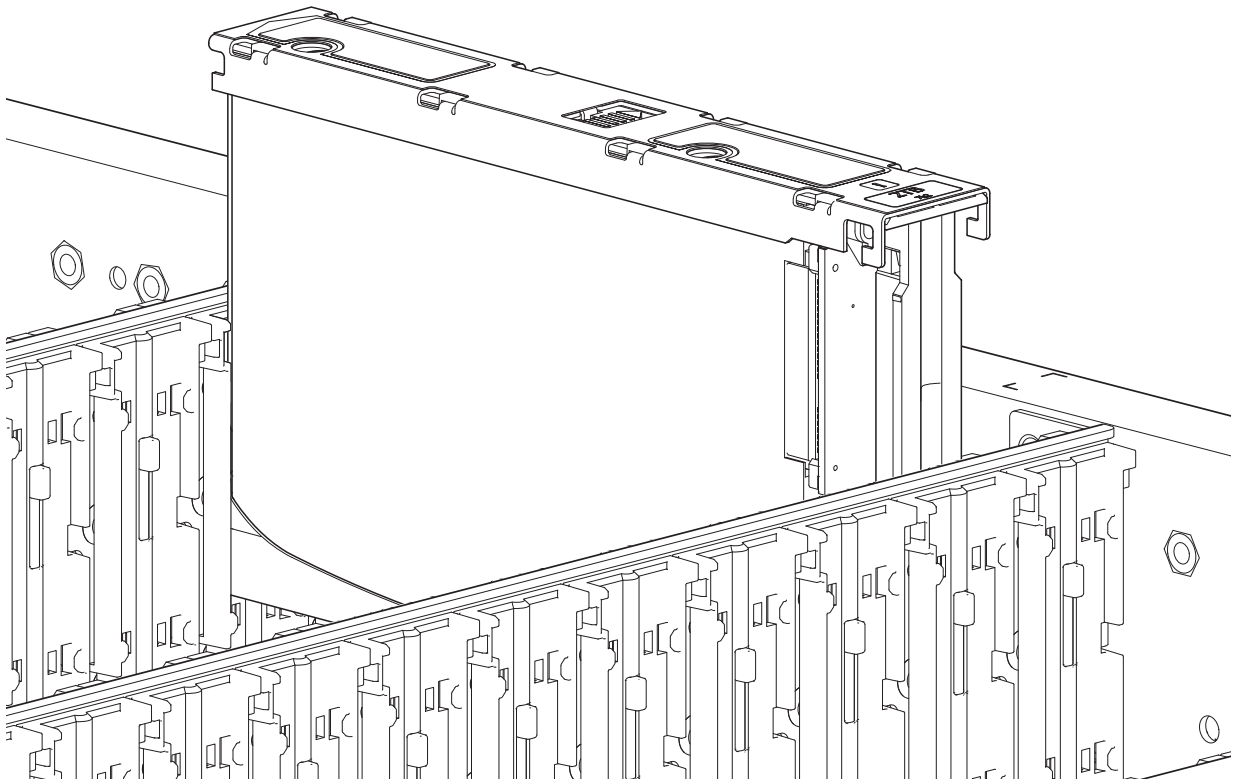

Figure 105 Removing a DDIC (2 of 2)
2. Align the DDIC with the target disk slot as shown in Figure 105 (page 132) and insert it into the disk slot.